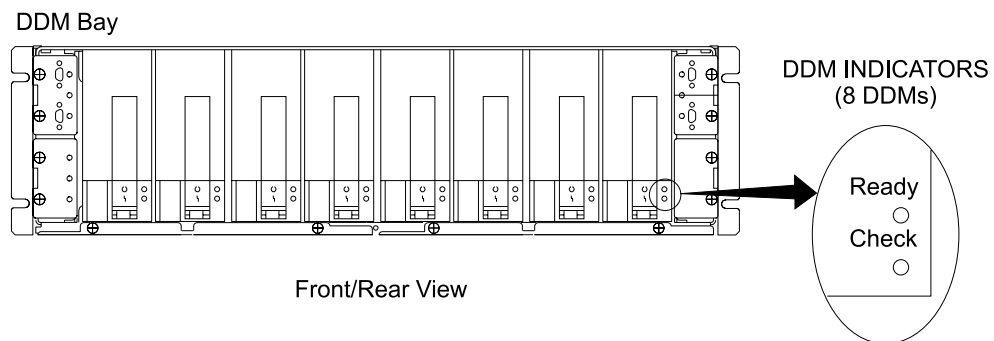

Figure 43. DDM bay DDM Indicator Locations (S0080211)
7. Locate DDM bay A, it may be in the front or rear of the 2105. Observe all of the DDM bay, DDM Ready and Check indicators. See Figure 43.